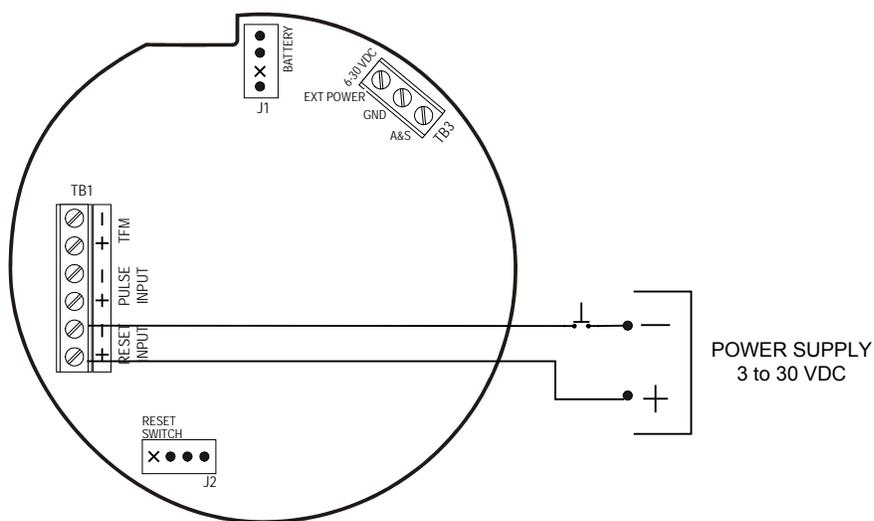
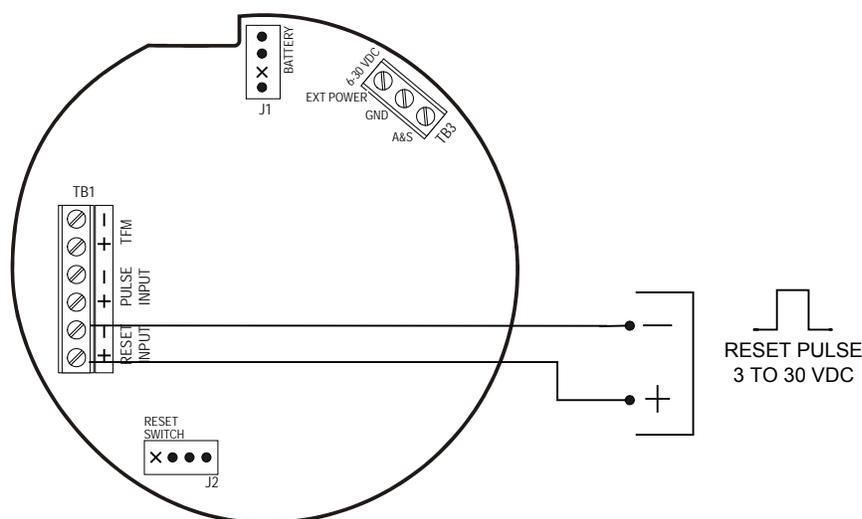

Figure 2.11—Reset input wiring (when power supply and reset switch are in a safe area)
Figure 2.12—Reset pulse input wiring (when pulse generator is in a safe area)
7. Connect wiring for the remote reset input to terminal block TB1, if appropriate. See Figure 2.11, page 23 and Figure 2.12, page 23.
The remote reset input allows the operator to reset the accumulated volume on the MC-III EXP to zero without opening the enclosure. This input is optically isolated. The input is shown connected in two ways, with a power supply and switch in a safe area (Figure 2.11), and with a pulse generator in a safe area (Figure 2.12). The remote reset input can also be controlled with an optional explosion-proof switch mounted in the top of the enclosure. See *Explosion-Proof Reset/Control Switch, page A-1*, for installation and wiring instructions.